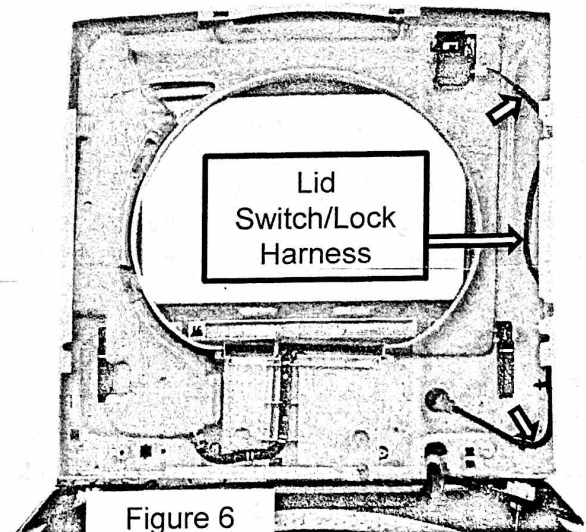

Figure 6
Step 10- Remove two 1/4 inch Hex Head screws at the rear of the top cover (one on each side) securing the top cover to cabinet. Unclip the two front clips and raise the top cover up to access the lid switch/lock harness. See figure 6.